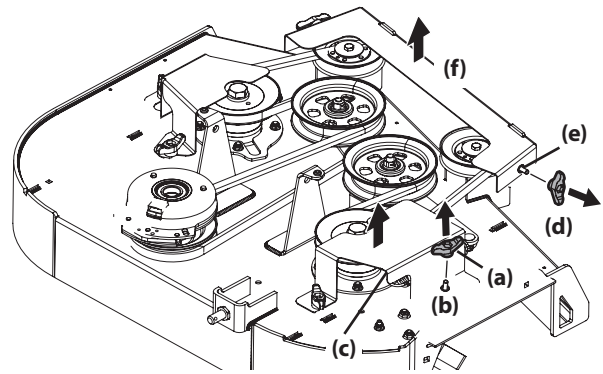

Figure 38
3. Remove the wing knobs (a) from the carriage screws (b) securing the side belt covers (c) to the deck and remove the side belt covers (Figure 38).
4. Remove the wing knobs (d) from the carriage screws (e) securing the front belt cover (f) to the deck and remove the front belt cover (Figure 38).